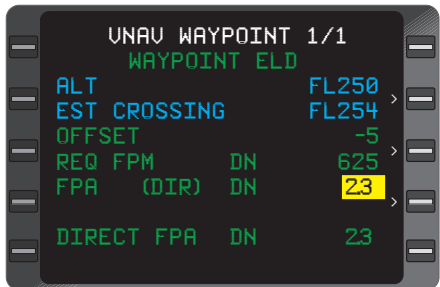

Figure 2-49
- **DIR:** Indicates direct **FPA** programmed. (Figure 2-49)